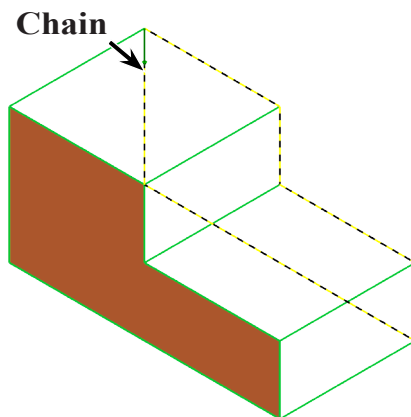

Fig. 21
Step 9. Chain a **rear line** of the block, **Fig. 21**.